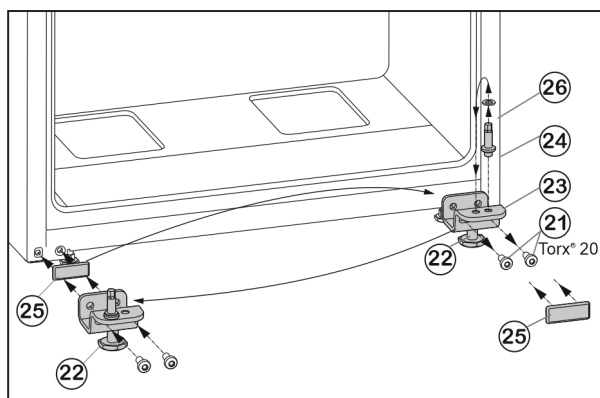

Fig. 7
- Unscrew fastening screws Fig. 7 (21).
- Remove the lower bearing block Fig. 7 (23), complete with bearing bolt Fig. 7 (24), washer Fig. 7 (26) and adjustable foot Fig. 7 (22).
- Unscrew the bearing bolt Fig. 7 (24), complete with washer Fig. 7 (26), re-locate it into the mounting hole on the opposite side of the bearing block and tighten again.
- Carefully remove the cover plate Fig. 7 (25) and re-locate it to the other side.
- Fasten the lower bearing block Fig. 7 (23), complete with bearing bolt Fig. 7 (24), washer Fig. 7 (26) and adjustable foot Fig. 7 (22) to the new hinge side, with the help of a cordless screwdriver if necessary, and **tighten (with 4 Nm)** once again.
- Lower the bottom door onto the bearing bolt Fig. 7 (24).
- Insert the centre bearing block (13) turned through 180° into the lower door and fasten firmly (**with 4 Nm**) to the new hinge side with the fastening screws (11) (2 x Torx® 20).
- Refit plastic washer (10).
- Unscrew the adjustable foot Fig. 7 (22) on the lower bearing block Fig. 7 (23) until it reaches the floor.